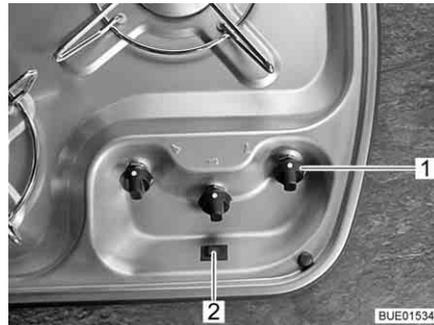
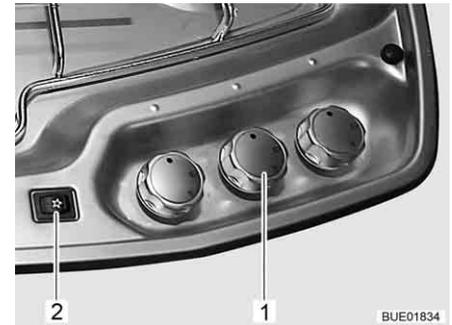

Fig. 210 Operating controls for gas cooker (Viseo)
Fig. 211 Operating controls for gas cooker (Elegance)
- Turn the control knob (Fig. 210,1 or Fig. 211,1) on the burner you wish to use to the ignition position (large flame).
- Press lighting knob (Fig. 210,2 or Fig. 211,2). Ignition sparks are generated at the burner.